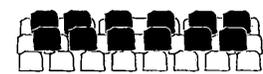

Fig. 17
4. Place six of the large coals between the middle row and back row and a further six between the middle and front row (Fig. 17).